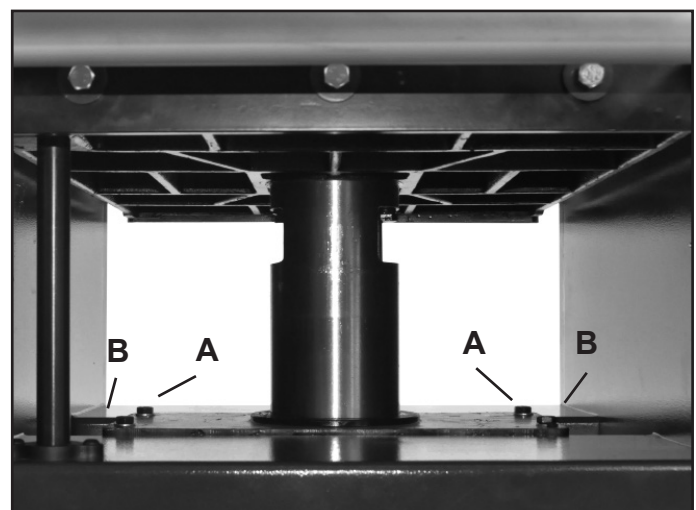

FIG. 17
7. The planer table assembly is attached to the cabinet by four Hex Bolts (#104A, FIG. 17, A). Next to these bolts are four Hex Socket Screws (#104, B) that can be adjusted to raise an end of the planer table so that it will be parallel with the cutterhead.